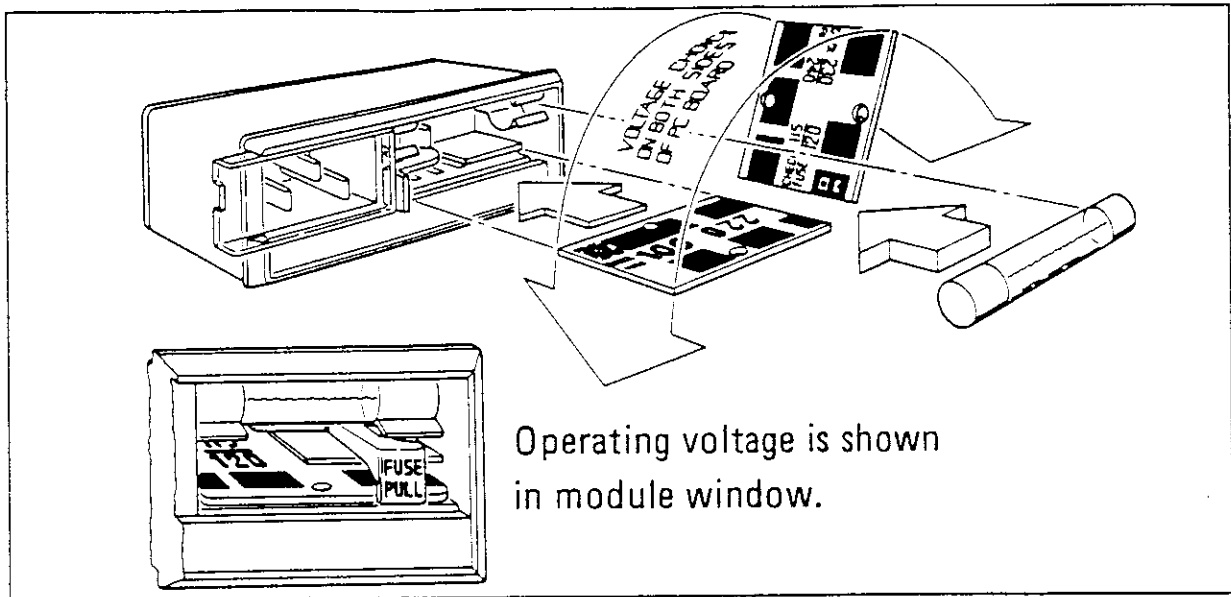

Figure 2-1. Line Voltage and Fuse Selection
Verify that the line voltage selection card and the fuse are matched to the power source. Refer to figure 2-1, *Line Voltage and Fuse Selection*.
1. Check that the line voltage setting matches the power source. (See figure 2-1, *Line Voltage and Fuse Selection*.)
2. Check that the fuse rating is appropriate for the line voltage used. (See figure 2-1, *Line Voltage and Fuse Selection*.) Fuse ratings are provided in the paragraph *Operator's Maintenance* in this section.